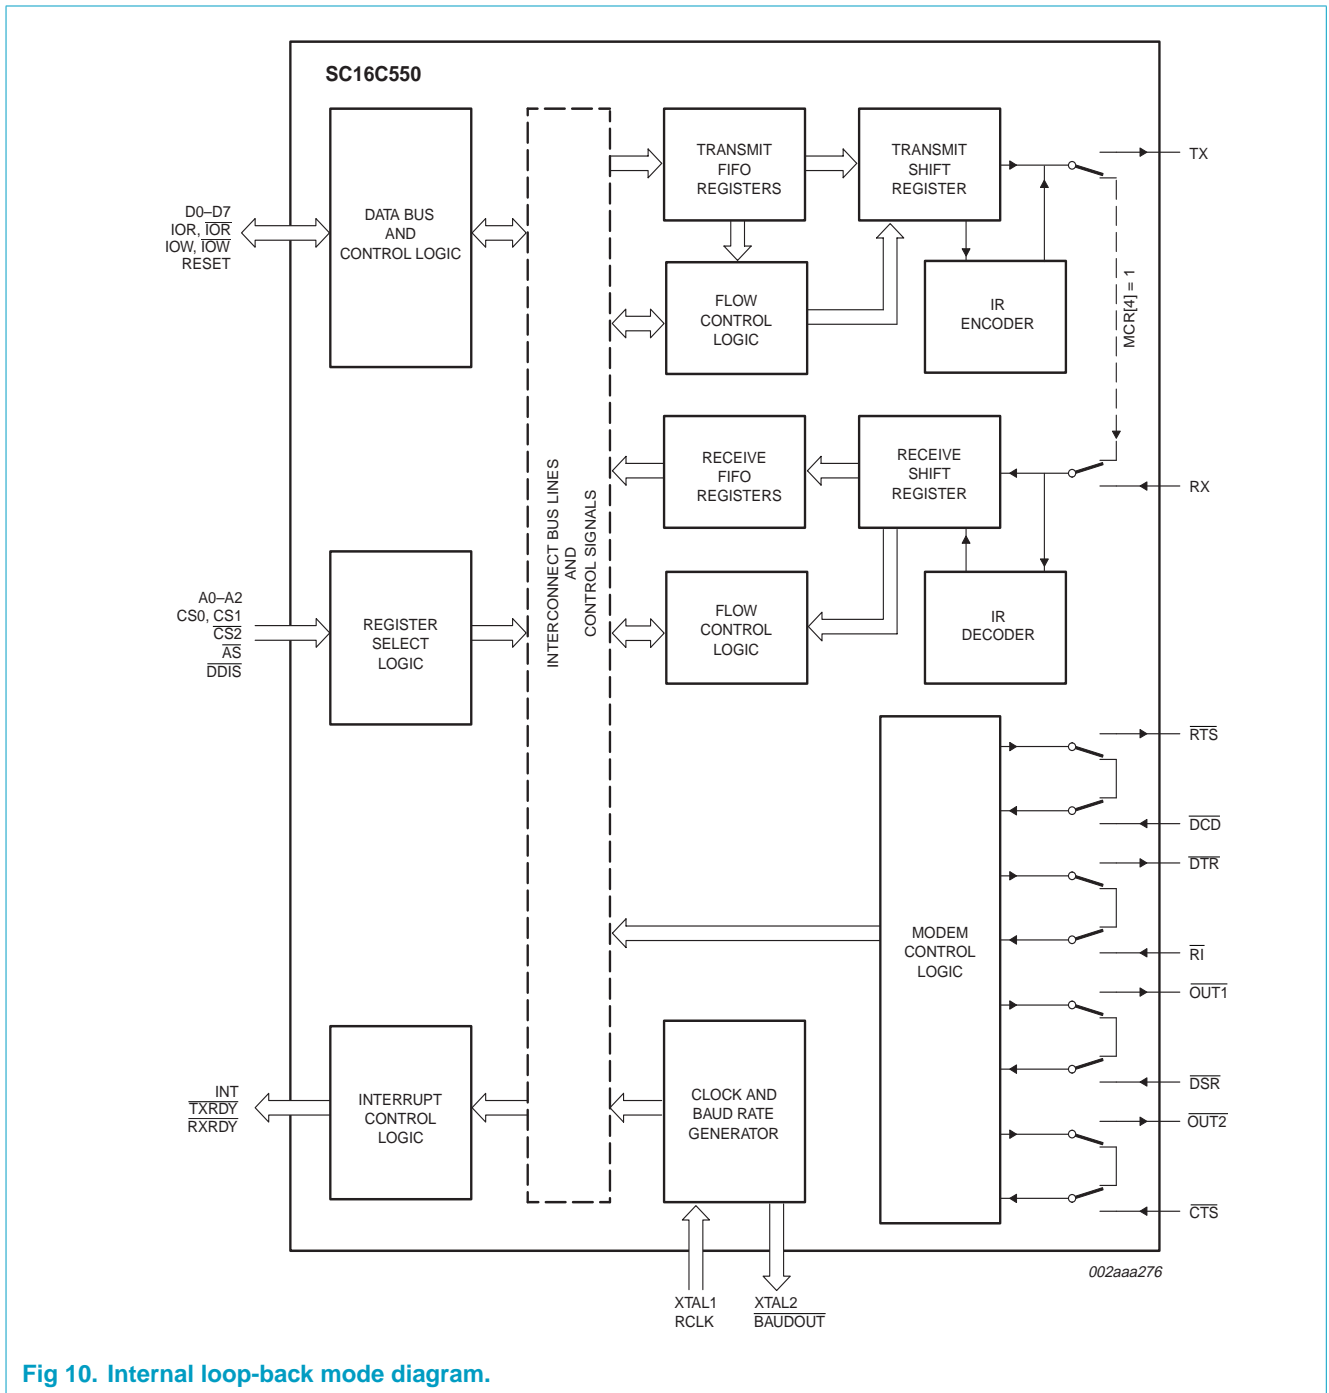

Fig 10. Internal loop-back mode diagram.
The internal loop-back capability allows on-board diagnostics. In the loop-back mode, the normal modem interface pins are disconnected and reconfigured for loop-back internally. MCR[0-3] register bits are used for controlling loop-back diagnostic testing. In the loop-back mode, OUT1 and OUT2 in the MCR register (bits 3-2) control the modem \overline{RI} and \overline{DCD} inputs, respectively. MCR signals \overline{DTR} and \overline{RTS} (bits 0-1) are used to control the modem \overline{CTS} and \overline{DSR} inputs, respectively. The transmitter output (TX) and the receiver input (RX) are disconnected from their associated interface pins, and instead are connected together internally (see Figure 10). The \overline{CTS} , \overline{DSR} , \overline{DCD} , and \overline{RI} are disconnected from their normal modem control input pins, and instead are connected internally to \overline{DTR} , \overline{RTS} , OUT1 and OUT2. Loop-back test data is entered into the transmit holding register via the user data bus interface, D0-D7. The transmit UART serializes the data and passes the serial data to the receive UART via the internal loop-back connection. The receive UART converts the serial data back into parallel data that is then made available at the user data interface D0-D7. The user optionally compares the received data to the initial transmitted data for verifying error-free operation of the UART TX/RX circuits.